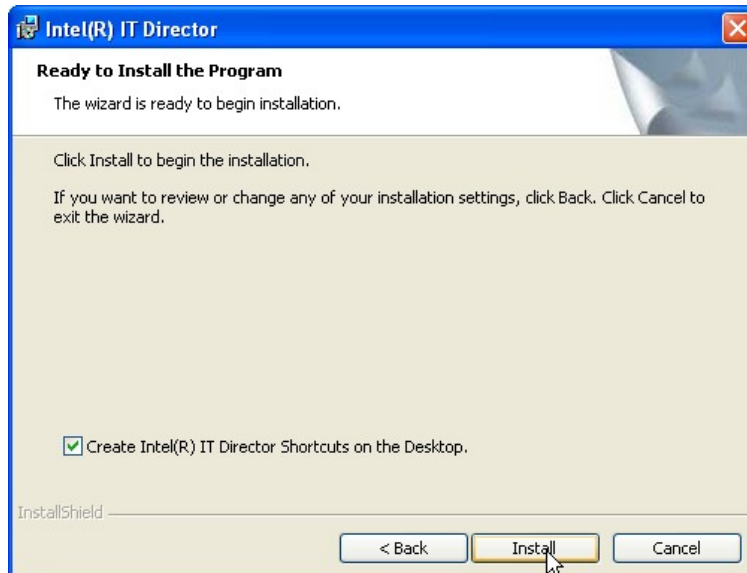

Figure 6-34: IT Director Installation
Step 11: The **Ready to Install the Program** screen in **Figure 6-34** appears.